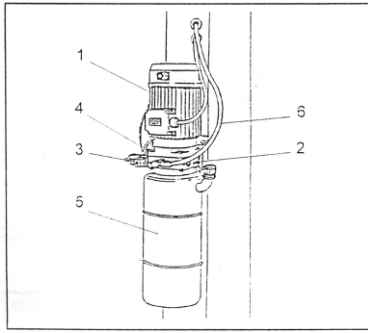

Fig.5 Hydraulic power unit
2. 1 hydraulic unit (see fig.5), on the command side, to set the cylinders run.
1.4 HYDRAULIC POWER UNIT (FIG.5)